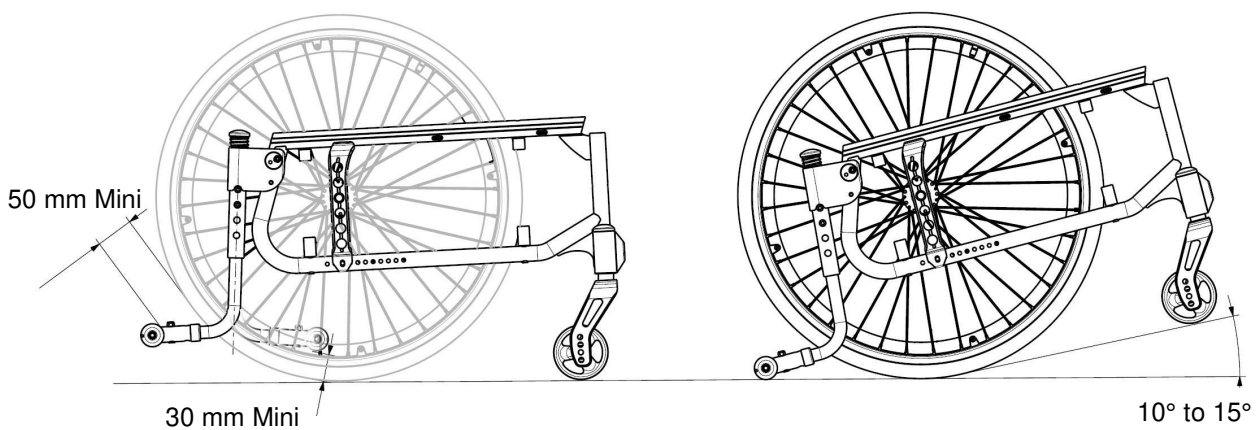

FIGURE 9.3 Adjusting Anti-Tippers when Swing Inwards
1. Remove the mounting bolts ⑥ (M5) that secures the anti-tipper to the anti-tipper tube. Adjust the position of the anti-tipper thanks to the adjustment holes. Secure the assembly with the mounting bolts ⑥ (M5).
2. Measure the distance between the top of the anti-tipper wheels and the rear wheel tire circumference, see FIGURE 9.3.
NOTE: For this information, refer to FIGURE 9.3.